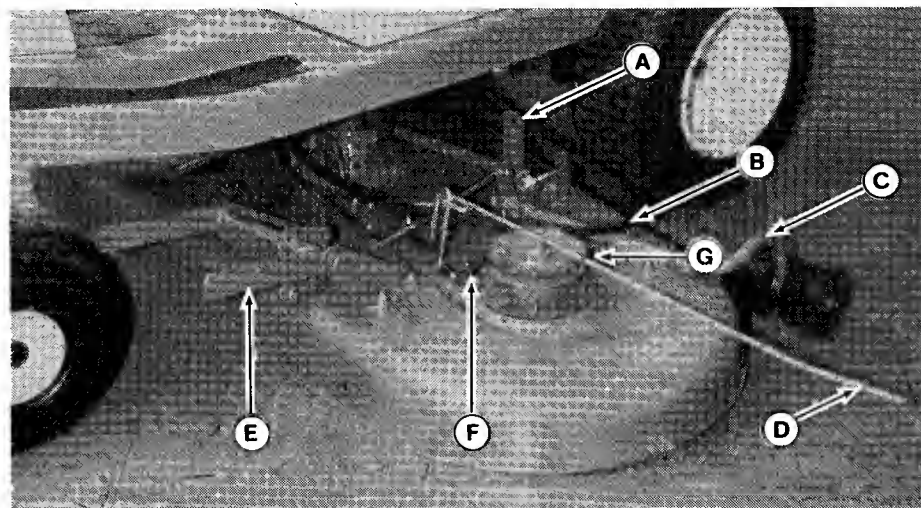
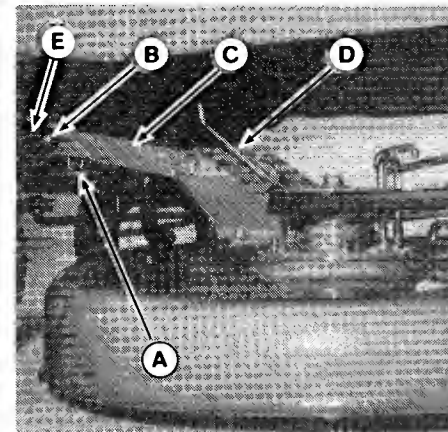
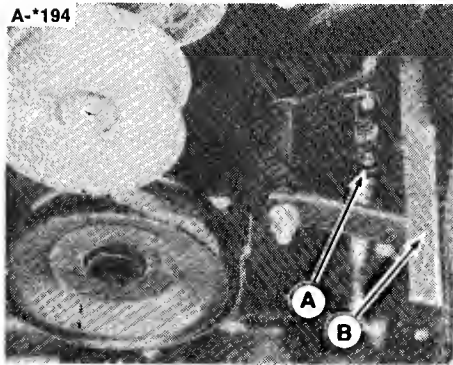
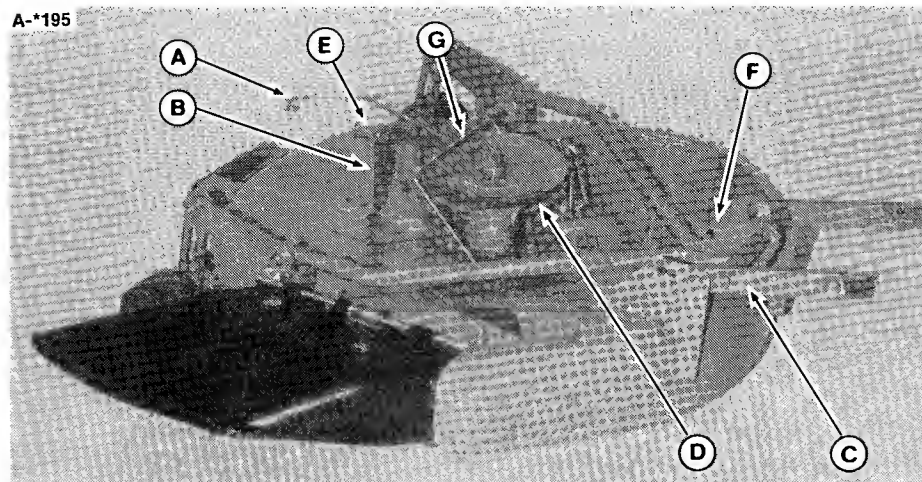

Figure 21. Installing 36" Mower
Figure 23. Mower Hitch
Figure 24. PTO Linkage
Figure 25. 26" & 30" Mower
1. Place mower on left side of rider with mower brake rod (D, figure 21) pointing left. Slide mower partially under and place belt over mower bracket (A).
2. With mower as far toward rear of rider as possible (rollers just clear tires) push mower under rider until hitch touches steering mechanism. To slide mower farther, push down on both the hitch and the roller arm (C). Slide mower
4. To align the mower hitch in rider hitch ears, push the hitch arms up and insert between ears (figure 23). (Pulling up on roller arm will help raise hitch.) Secure the mower hitch with pins and spring clips. Install pins from the outside. Be sure to install clip fully onto large ring.
6. Install the belt on the pulleys. Push the mower brake (F, figure 21) away from the pulleys to install belt. Loosen left arbor pulley belt stop if necessary. Make sure "V" side of belt rides in pulleys and there are no twists in belt.
7. Push the brake (F, figure 21) away from the pulleys so the brake rod (D) will clear the tire and left side plate. Insert the brake rod just inside the left side plate and insert the end of rod into PTO linkage shown in figure 24. (Engage the PTO lever to change position of the linkage.) Secure the brake rod with a spring clip (insert spring clip from rear).
8. Put height control lever in lowest position. To slip the lift rod (D, figure 23) into the hitch flange, the front of the mower must be raised a little. One method is to insert a wooden handle under the front of the mower deck and lift slightly (in a lever action). Insert end of lift rod into the hitch flange. Secure the rod with a washer and cotter pin.
1. Remove the spring clip from the brake rod and remove end of rod from the PTO linkage (figure 24). Push brake rod forward to clear left side plate and tire and swing rod out toward left side.
Loosen the hardware which secures the pulley belt guard (G, figure 25). The guard must be loose to install the belt.
mower bracket (B, figure 25).
6. Position the mower under the rider so that the mower bracket (B) is behind the rider upstop bracket.
7. Push the brake (D, figure 25) away from the pulley and slip the belt into the pulley. Be sure there are no twists in the belt. The belt is shown installed on the pulley in figure 5 on page 10. Tighten the belt guard (G, figure 25) hardware securely.
8. Lift up the front of the mower to align the hitch arms between the tractor hitch cars (figure 23). Insert the two pins while holding mower up. Install the two spring clips in the pins.
9. Lift up the front of the mower and insert the lift rod (D, figure 23) into the hitch flange. One method to lift mower is to insert a wooden handle under the front edge of the mower deck and lift slightly (in a lever action). Place washer on lift rod then install spring clip.
10. Apply a little grease to the inside of the spacer (E, figure 25) and place the spacer on the bolt. Install the bolt thru the upstop bracket and mower bracket from the front. Be sure spacer is inside the upstop bracket. Install the locknut on the bolt. Tighten securely.
11. Push the brake (D, figure 25) away from the pulley to insert the brake rod (A) just inside the left side plate. Insert the rod into the PTO linkage shown in figure 24. Insert the spring clip into the rod from the rear.
5. Loosen the hardware that secures the mower pulley belt guide (G, figure 25). Push the brake (D) away from the pulley and slip the belt out. Push the mower to one side and slip belt between mower bracket (B) and upstop bracket.
6. Remove the spring clip from the rear of the brake rod (A) and pull rod out of the linkage.
7. Remove the spring clip from the lift rod (D, figure 23). Remove the washer.
8. The mower must be lifted slightly to remove the lift rod from the mower flange (F, figure 25). One way is to insert a wood handle under edge of mower and lift up in a lever action. Pull lift rod out of the hole.
4. Loosen the idler pulley (K) mounting hardware. If pulley is removed, remember the position of the washers and belt stop (M).
5. On the 36 inch mower loosen the left arbor pulley belt stop. On 26 inch or 30 inch mower loosen the belt guide (G, figure 25 on page 29).